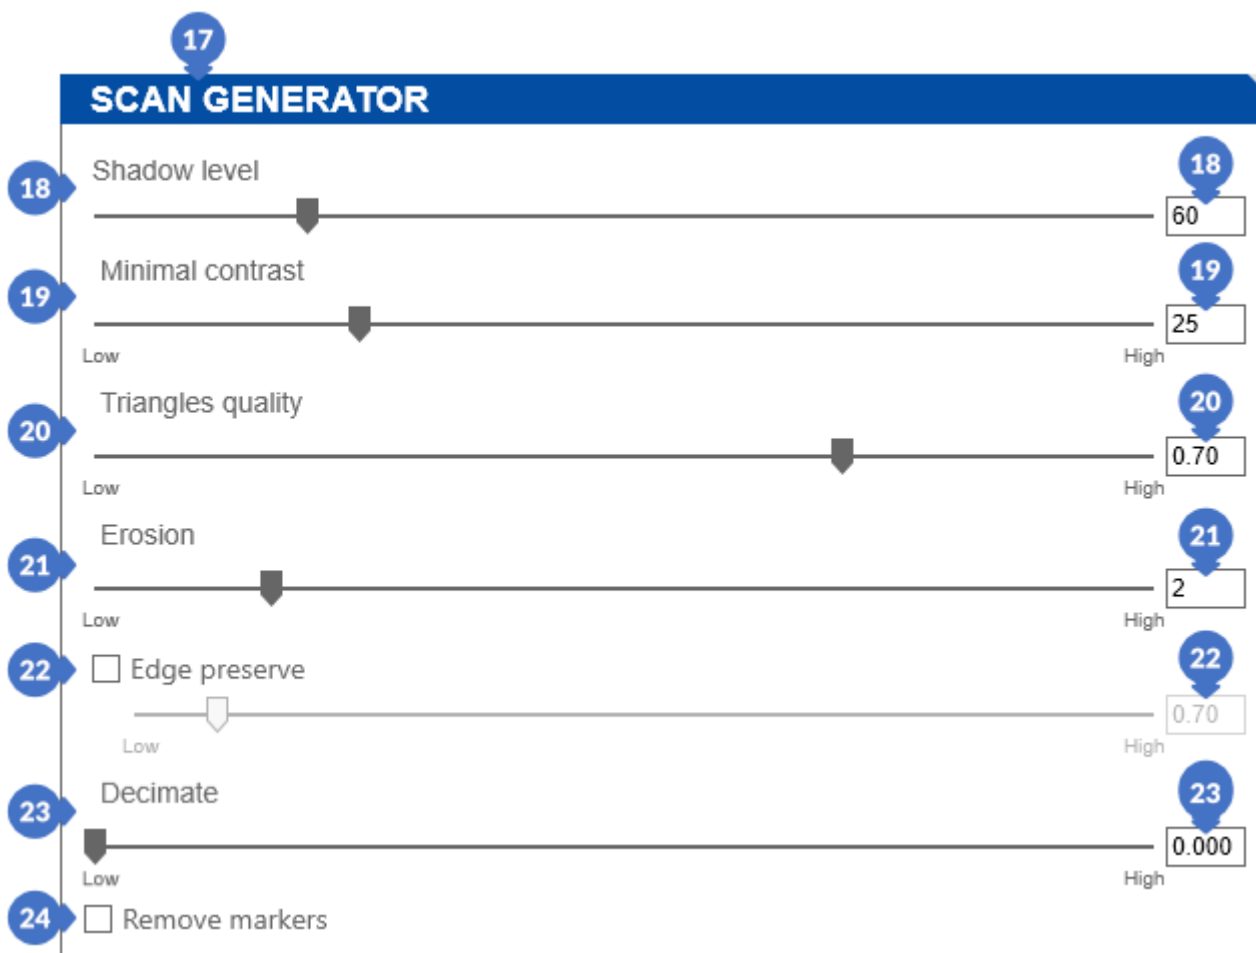

Figure 71. Scan generator settings
The third group in *General options* tab is *SCAN GENERATOR* (17) (Figure 71) which contains the following parameters:
- (18) – *Shadow level* is responsible for skipping all pixels (found in A0 photo) below the indicated value while generating a point cloud. Its minimum value on the slider depends on the set value of the minimum contrast (20). The maximum value of the slider is 200,
- (19) – *Minimal contrast* defines the minimum difference between the smallest and the largest pixel value in the phase images3 (all images in the scan except the A0 mark). All pixels below the value defined by this parameter will be omitted when generating the point cloud. The slider of this parameter takes values from 0 to 100,
- (20) – *Triangle quality* – parameter responsible for the type of generated triangles. The higher the parameter value, the more equilateral and less irregular triangles will be generated. The range of this slider is from 0.00 to 0.99,
- (21) – *Erosion* is a parameter responsible for the elimination of noise, jagged narrow edges ("branches") and, consequently, reduces the object and widens "holes" in the incoherent areas. The higher the parameter value, the more mesh edges are removed. The parameter slider takes values from 1 to 7,
- (22) – *Edge preserve* – this parameter prevents the destruction of edges by removing incorrectly generated points on the edges. Increasing this parameter will increase the number of generated points, including incorrect points. When the points on the edges are not generated correctly, the value of this parameter should be decreased. However, it is too low value will cause the removal of correctly generated points. When the parameter is active, its value on the slider may range from 0.5 to 3.0,
- (23) – *Decimate* is a parameter responsible for smart reduction of the number of mesh points. On flat surfaces, it causes the formation of large triangles,
- (24) – *Remove markers* – selecting this parameter will automatically remove markers after generating the cloud.